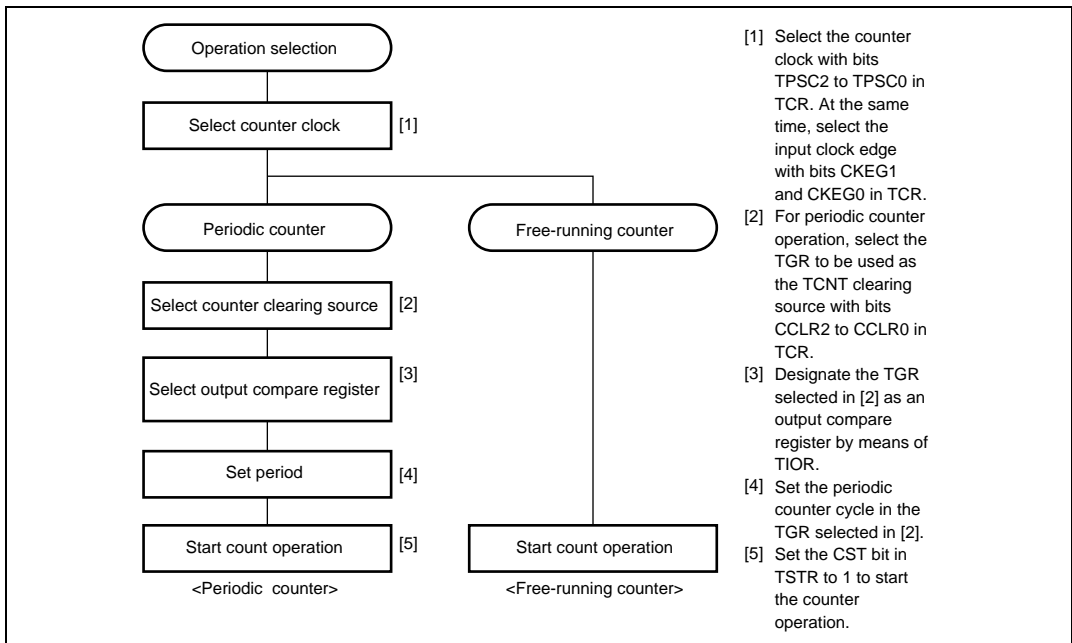

Figure 8.2 Example of Counter Operation Setting Procedure
1. Example of count operation setting procedure: Figure 8.2 shows an example of the count operation setting procedure.